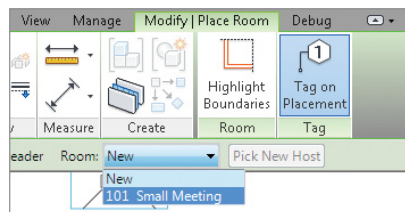

FIGURE 8.11 Place rooms with unplaced room definitions.
6. To replace the room you just deleted, return to the Level 1 floor plan, and start the Room command again. This time, open the Room drop-down on the Options Bar. You see any unplaced rooms available in your project (Figure 8.11). Select the unplaced room from the list, and place the room back in the floor plan.